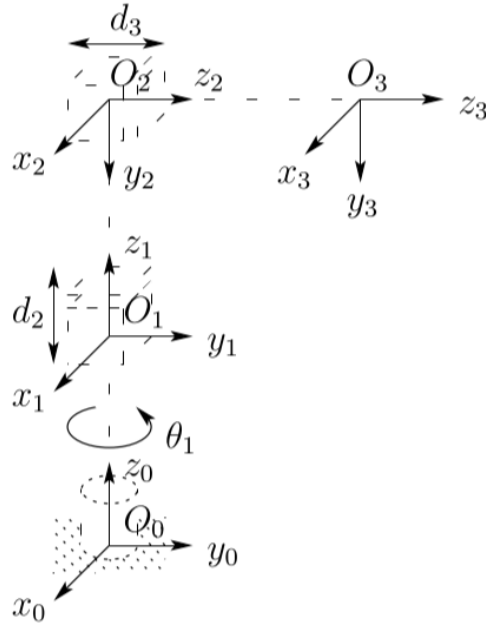

Figure 1: Three-link cylindrical manipulator
- Use the position of the end-effector in the base frame to calculate the  $3 \times 3$  linear velocity Jacobian  $J_v$  for the three-link cylindrical manipulator of Figure 1.